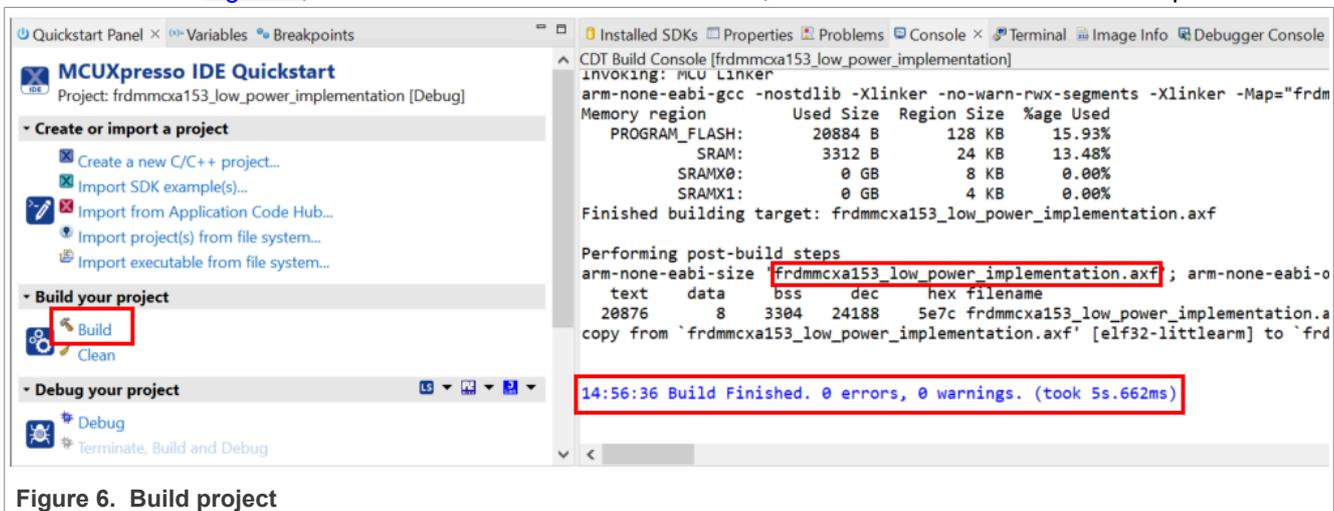

Figure 6. Build project
1. As shown in Figure 6, click the **Build** button from the toolbar, and then wait for the build to complete.